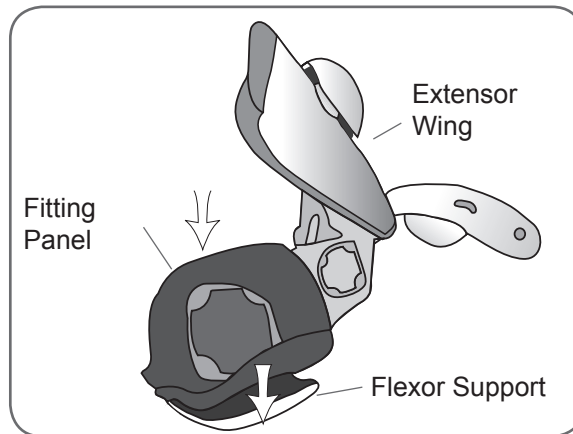

Figure 5-9: Reattaching the flexor fitting panel.
1. With the Orthosis wing open, align the flexor fitting panel to the flexor support. See Figure 5-9.